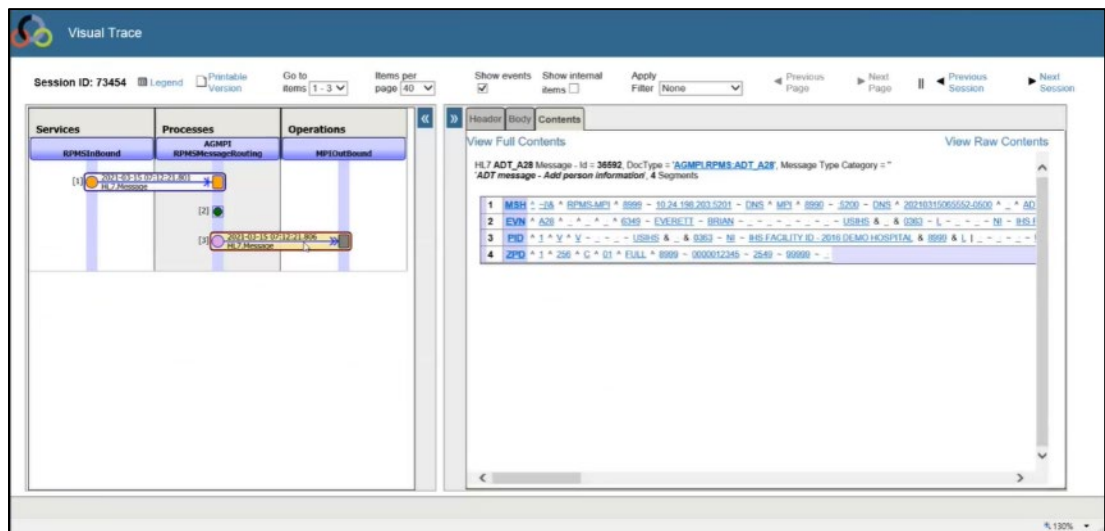

Figure 5-7: Visual Trace window - Contents tab selected
9. Click on **Contents** (or another tab) to see details (Figure 5-7).